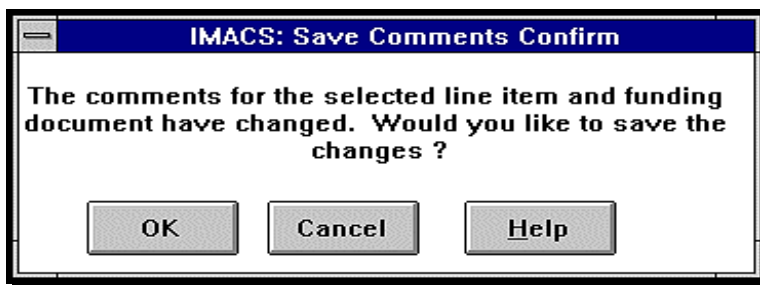

Figure 28-5. Save Comments Confirm
- d. If the line item or funding document is changed and the comments have been changed but not saved, the save confirmation box displays (see Figure 28-5, Save Comments Confirm). This allows the user a chance to save the updated comments.